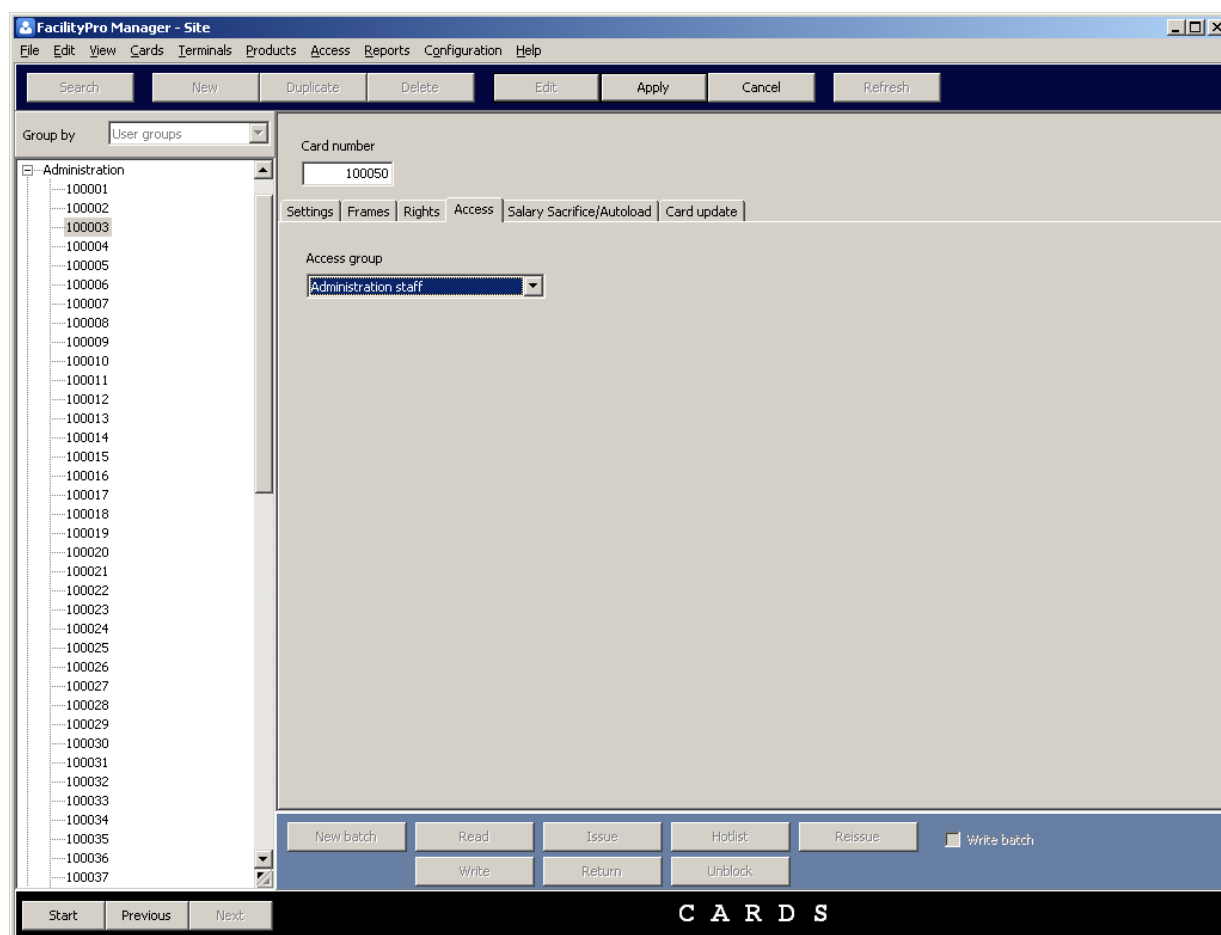

Figure 3-6 The tab 'Access' of the cards data screen
5. Click the tab 'Access'. You will see the tab 'Access' (Figure 3-6). You will see the field 'Access group', which might be empty or contain a previously assigned access group.